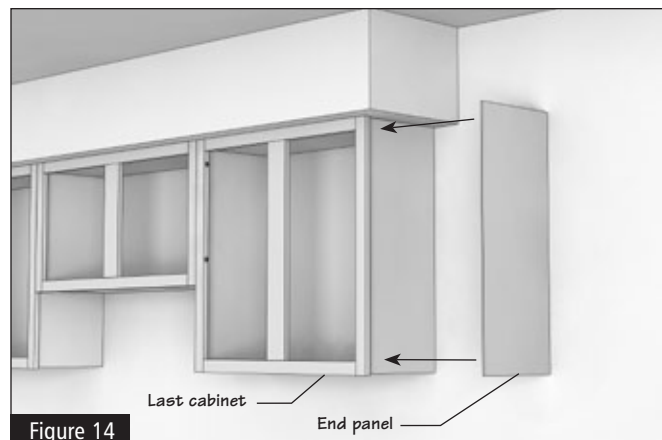

Figure 14
5.1 If your application uses a finished end panel, first trim the panel to fit and then attach the panel to the side of the cabinet. This can be done with contact adhesive or 1/2" finishing nails. (Figure 14)